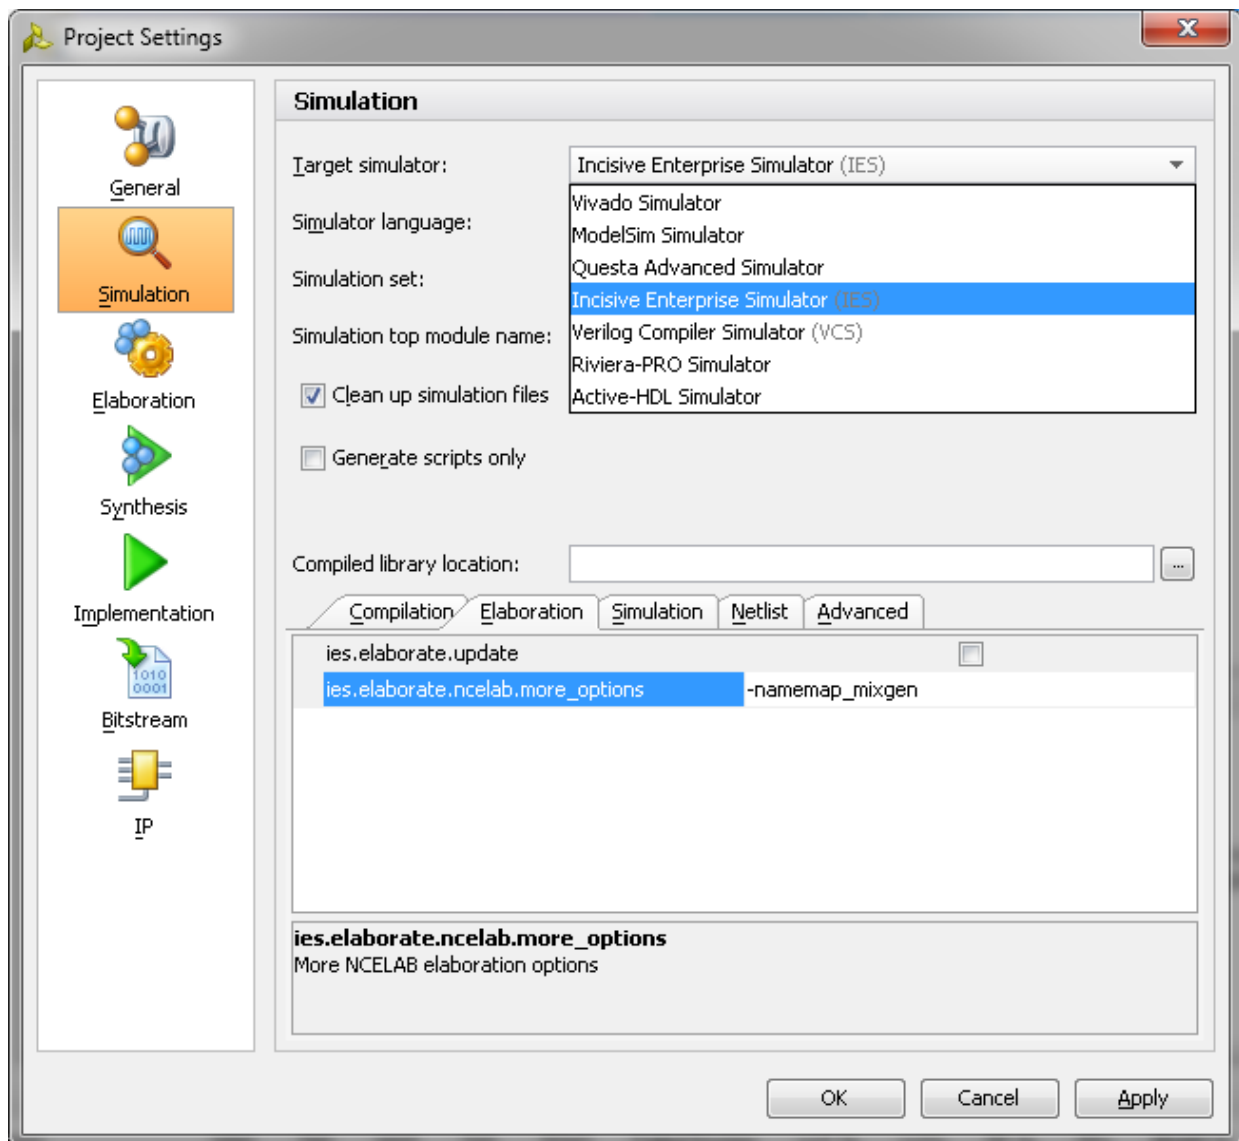

Figure 1-50: Simulation with IES
- d. Under the **Simulation** tab, set the `ies.simulate.runtime` to 1 ms (there are simulation RTL directives which stop the simulation after certain period of time which is less than 1 ms) as shown in Figure 1-50.